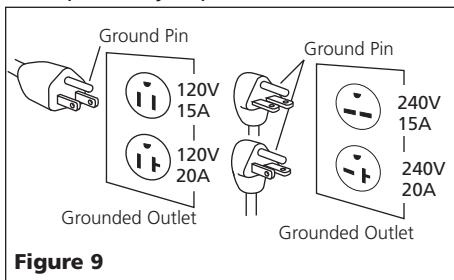

Figure 9
- This product must be grounded. In the event of an electric short circuit, grounding reduces the risk of electrical shock by providing an escape wire for the electric current. Unit is equipped with a cord that has a grounding prong. It will fit one of the common outlet types shown in Figure 9. If plug will not fit in the desired outlet, have the outlet replaced by a qualified electrician.
- If the plug on the electrical cord of the unit is unfamiliar to you or will not fit your particular receptacle, Figure 9 will help you understand why by illustrating the different plugs and the voltages they are to be used with.